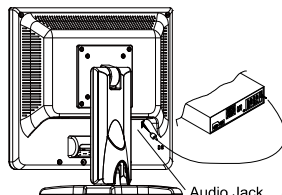

Figure 1-6
1. Connect the audio cable to the "LINE OUT" jack on your PC's audio card or to the front panel's "AUDIO OUT" jack of your CD ROM drive. (See Fig. 1-6)